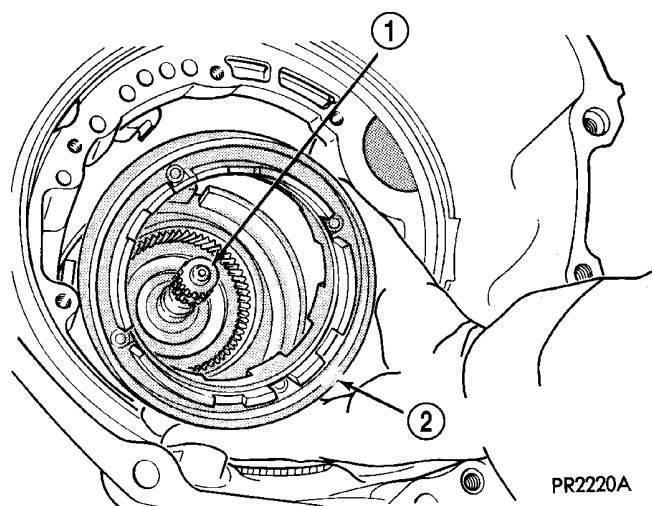
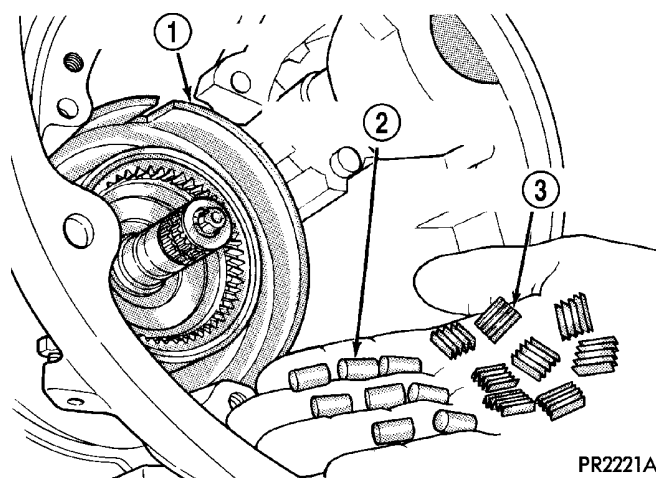

Fig. 41 Overrunning Clutch Cam Assembly
Fig. 42 Overrunning Clutch Rollers and Spring
(41) Remove overrunning clutch cam assembly (Fig. 41). Collect eight rollers and eight springs from rear of case (Fig. 42).